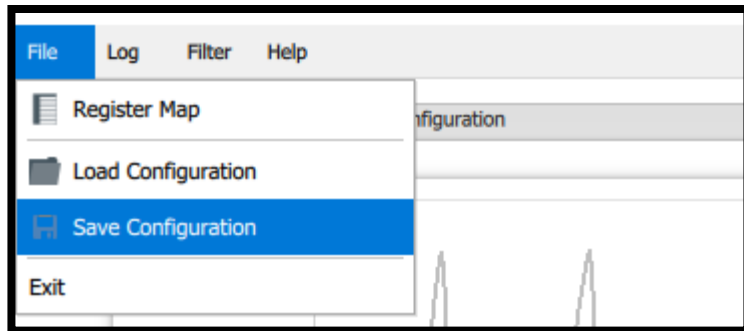

Fig. 23: Saving a Configuration File
- To save the current configuration settings, click on the tab File → Save Configuration (Fig. 23). This will open the Save Configuration File dialog box. Enter a file name, choose the file location, and save it as a '.json file'. Click Save to save the file.